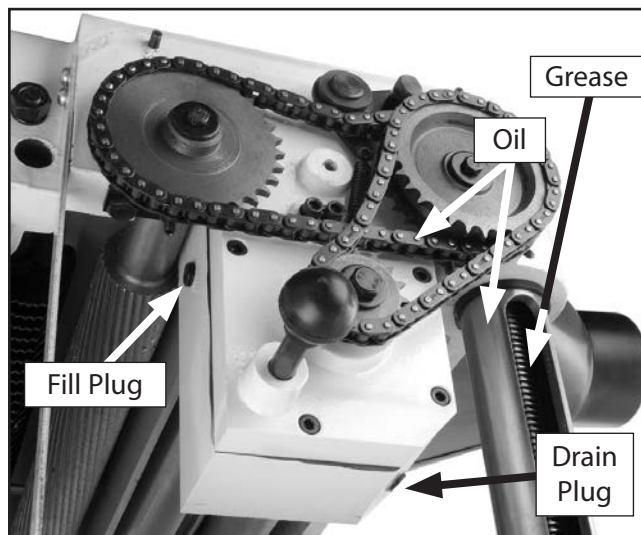

Figure 47. Gear box lubrication.
- **Gear Box:** Drain the gear box after the first 20 hours of operation. **Figure 47** shows the gear box drain and fill plugs. Refill with 80-90W gear oil. The oil level should reach the top of the filler plug port. After the initial change, inspect fluid levels periodically and change yearly. *If your planer receives heavy use, change the gear oil more frequently.*